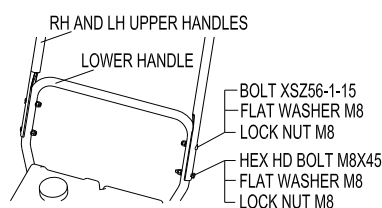

FIG 2
2.2.1 Assemble the RH and LH upper handles to the lower handle with (3) M8x45 carriage bolts, M8 washers, and M8 nuts. (FIG 2)
2.2.2 Insert (1) M8x45 hex hd bolt, M8 washer, and M8 nut into lower left side of handle. Leave this bolt loose until chute control rod bracket is installed. (FIG 2)